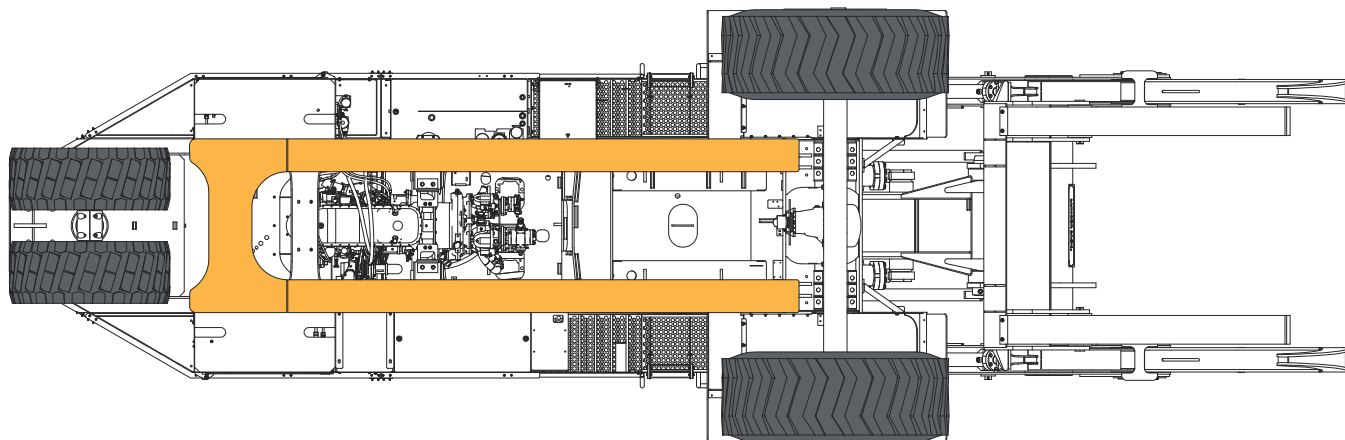

Figure 1 Jacking Locations, L90
4. See Figure 1. Jacks and jack stands may be placed anywhere on the bottom 1" steel plate highlighted in yellow. Use pads (anti slip material) that are minimum 4" x 4" in size between jack and Logstacker to prevent damage.